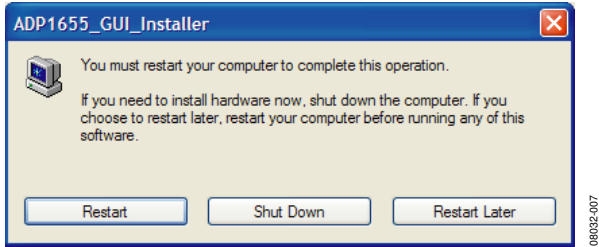

Figure 7. Restart Prompt Window
5. After file installation is completed, the window in Figure 7 opens. Click **Restart** to complete the operation.